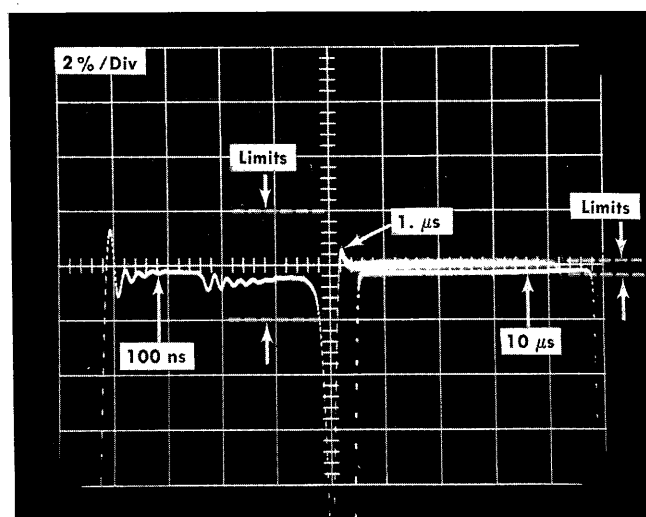

Fig. 5-2. Displays showing Amplitude checks at Square Wave Period settings.
n. Set the Trig Source to Ext and set the Trigger Level control for a stable display. Observe the upper portion of the square wave within  $\pm 5$  mV of the center of the graticule; step (l) set the vertical position (see Fig. 5-2).
r. Check—Upper portion of the waveform is within 20 mV after the first 20 ns; see Fig. 5-2.